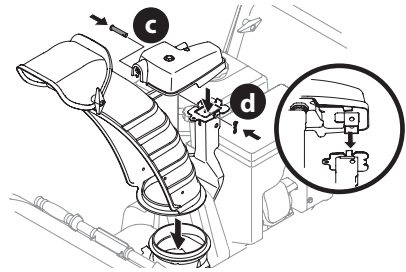

Figure 8
2. Secure chute control head to chute support bracket with clevis pin (c) and bow-tie cotter pin (d) removed in Step 1 (Figure 8).